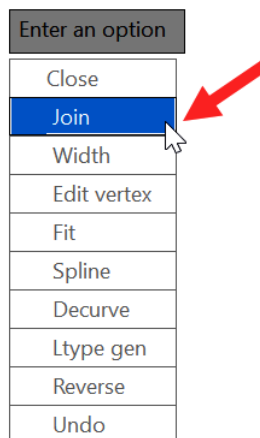

Figure 5.15: The Edit Polyline menu with Join highlighted and arrowed
3. Press **Enter** when the default **Y** option is highlighted. This confirms that you want the selected arc to be converted into a polyline segment. Typing **N** and pressing **Enter** will stop the arc from being converted into a polyline segment. The **Edit Polyline (PEDIT)** menu will appear, as shown in *Figure 5.15*: